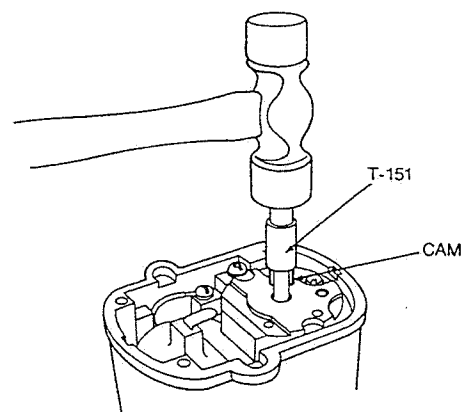

Figure 7.9
B. Drive the cam until it bottoms in the rotor cam slot. (See Figure 7.9).